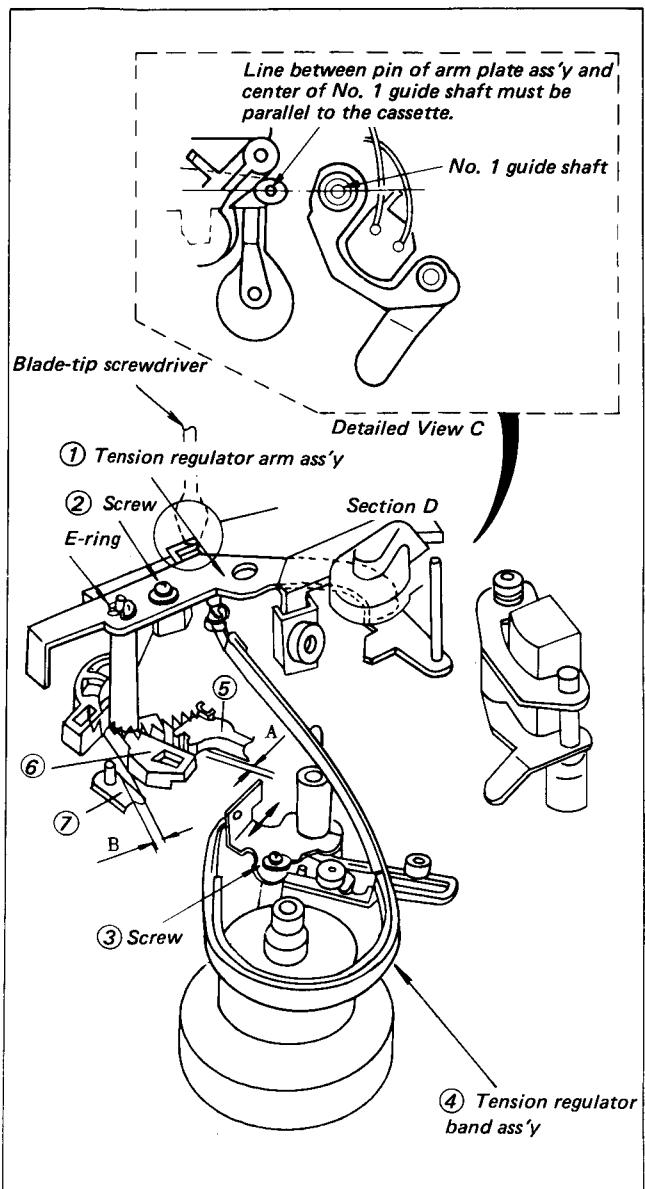

Fig. 3-5.
- (1) Set up the FWD mode.
- (2) Loosen screw (3) securing the tension regulator band ass'y (4) shown in Fig. 3-5, move the ass'y in the direction of an arrow, and temporarily tighten the screw (3) at the position where the state of view (C) is established.
- (3) Insert a standard blade-tip screwdriver into section (D) and adjust the clearance between the release link (1) assembly (6) and tension regulator arm assembly (7) until it is 0.5 to 1.0 mm, and also the clearance A is 0.1 to 3 mm. Then secure the section D using a screw (2).
- (4) Tighten a screw (3) as stated in 3-4-1 above.
- (5) After adjustment, make screw lock.